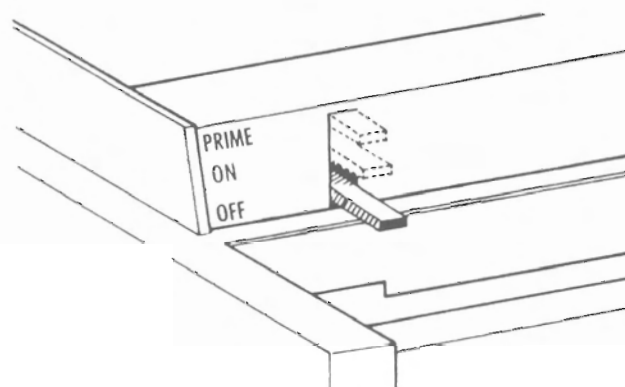

Figure 1-5
This is a multiple function switch located at the front left side of the instrument, near the top (Figure 1-5). It is a bar shaped lever with a flat surface for easy finger manipulation. The three positions of the lever are labeled and their related functions are as follows:
- Lift the operating lever (Figure 1-5) to the "ON" position. The "ON" signal light will light up and the conveyor spirals will revolve.